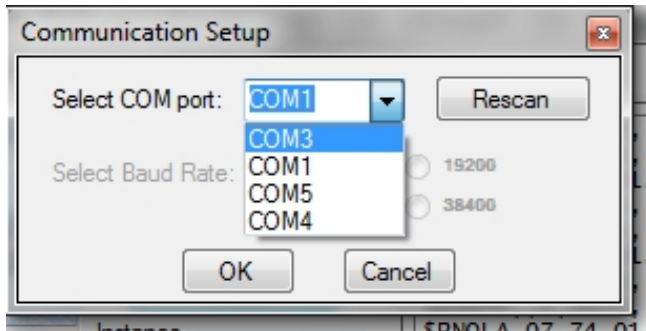

Figure 6. COMx Port Selection
- Figure 6 - COM Port Selection
Once the USB Drivers are installed you must then select the proper COMx port. Under the ‘Config’ menu item of the Setup Utility, select ‘Set COM port.’ This will open the window shown in Figure 6, which contains a pull-down list of all available COM ports. If you know the correct COM port for the RS11, select it and click ‘OK’. To determine the correct COM port, unplug the RS11 USB cable, click ‘Rescan’ and note which COM port disappears from the list. Then plug the USB cable back in, click ‘Rescan’ and select the newly created COM port. If no new COM port appears, see “Troubleshooting”.
The most common reason for this is either the wrong COMx Port is selected or the RS11 is not operating (Green LED flashing). See “Figure 6”.